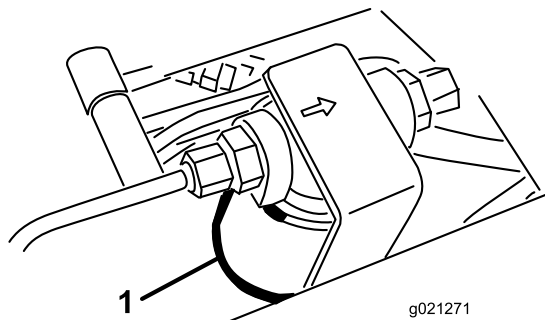
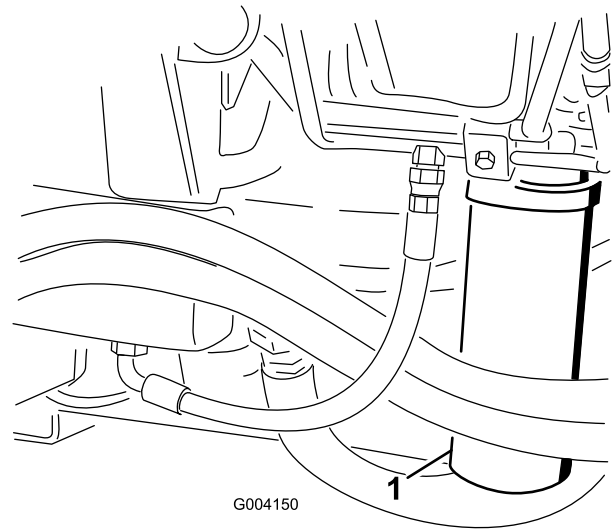

Figure 64
Figure 65
2. Clean the area around the filter mounting area and place a drain pan under filter (Figure 64) and (Figure 65).